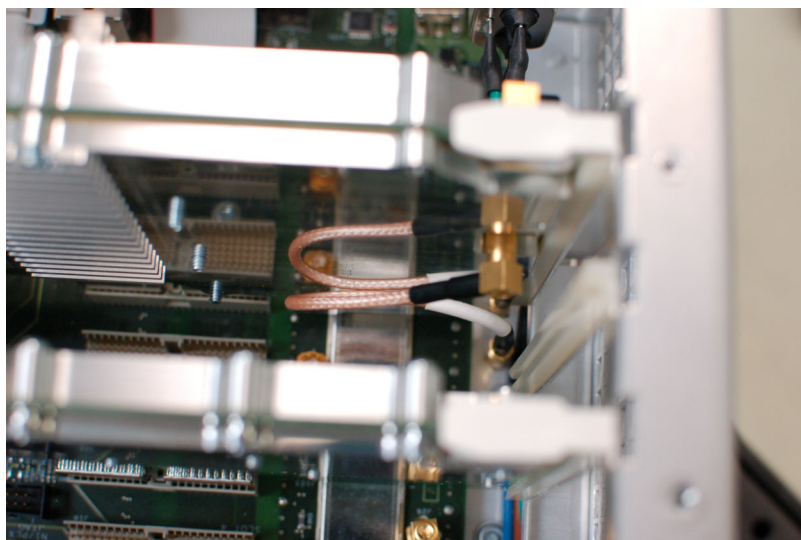

Figure 4: Reconnecting the cable on the back of the acquisition board
2. Reconnect the SMB cable to the connector on the back of the new acquisition board (the side facing the front panel). (See Figure 4.)